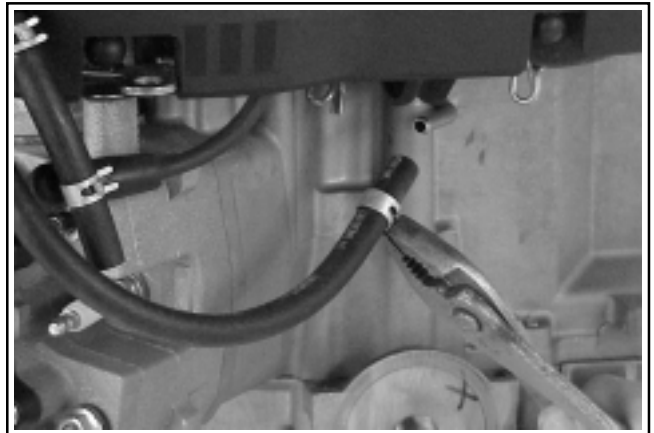

Figure 9-10. Disconnecting Pulse Line from Fitting.
1. Disconnect the pulse (vacuum) line from the crankcase fitting. See Figure 9-10.